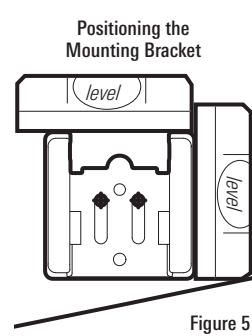
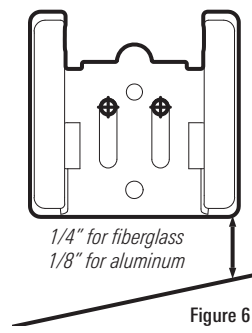

Figure 5
Figure 6
2. Hold the mounting bracket against the transom of the boat in the location you have selected (Figure 5). Align the bracket horizontally, using the level. Make sure that the lower corner of the bracket does not protrude past the bottom of the hull, and there is at least 1/4" clearance between the bottom of the bracket and the bottom of the transom for fiberglass boats, and 1/8" clearance for aluminum boats (Figure 6).